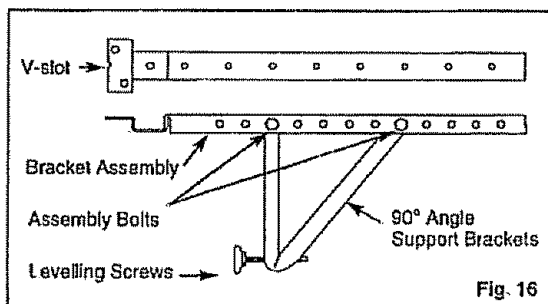

Fig. 16
- A. Attach the bracket assembly to the 90° angle support brackets (Fig. 16) using four 1-1/2" x 1/4" bolts. (two bolts per bracket)
Test the bracket assembly in the window before installing, if satisfied, tighten all bolts. Install the two levelling screws into the 90° support brackets. See Fig. 16. If the levelling screws are distanced too far away from the wall to provide adequate stability, it may be necessary to shim this area with a solid piece of wood. See Fig. 19.